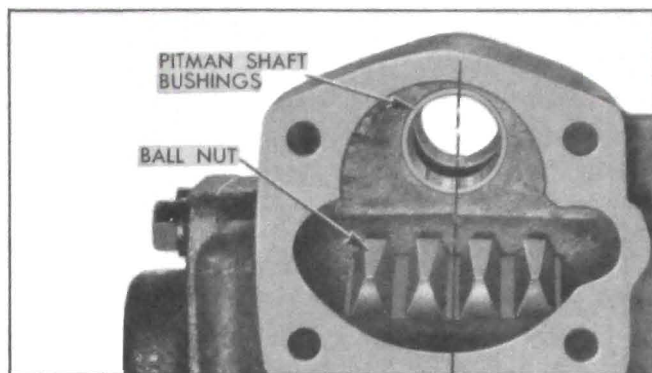

Figure 8-31—Position of Ball Nut for Installation of Pitman Shaft
16. Place gear assembly on left side, turn steering shaft until ball nut teeth are centered on pitman shaft bushings, and tilt nut slightly toward side cover opening. See figure 8-31. Hold pitman shaft with the gear sectors straight down as it is installed in gear housing; use care to avoid damaging pitman shaft seal in gear housing as shaft is pushed through it. Install side cover and tighten bolts securely.